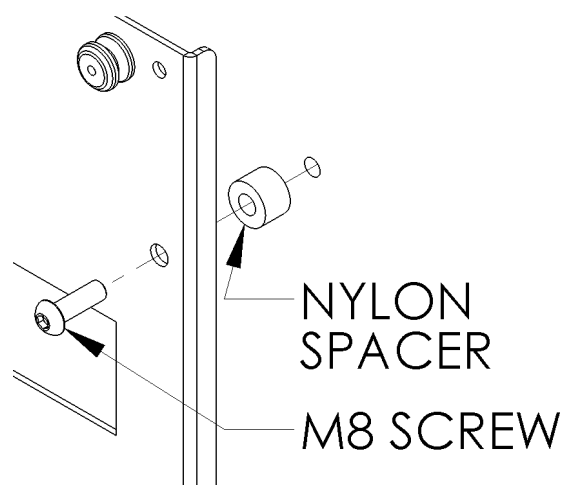
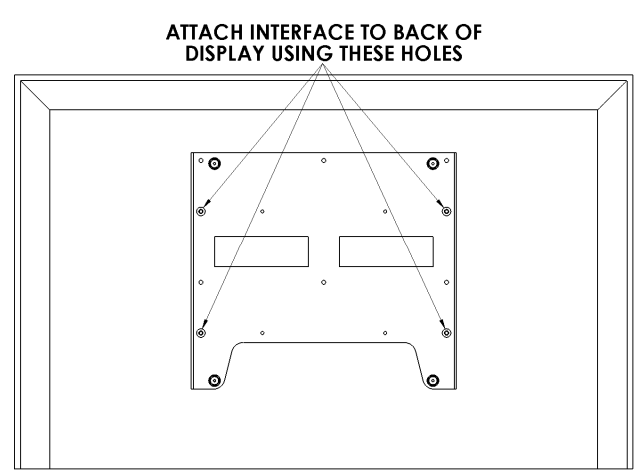

Figure 4
Figure 5
- Place Nylon spacers over mounting holes on back of screen. Attach mounting brackets to display using the M8 screws (see Figure 4 & Figure 5)